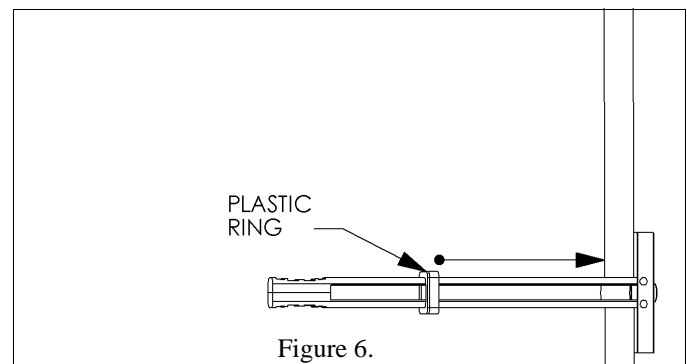

Figure 6.
4. Slide plastic ring of anchor to the surface of the wall (see Figure 6).